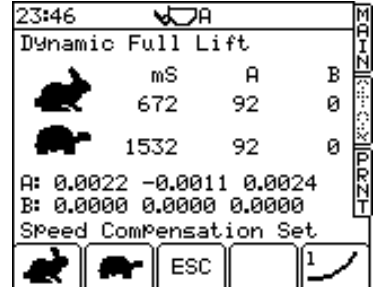

Figure 6a
- With the menu pointer opposite the turtle symbol, lower the bucket then slowly lift through the weighing position again. If you lift too quickly, the display will flash 'Error'. If so, lower the bucket and try again. The instrument will beep once, then display the frequency output of each pressure sensor, and the sample time in milliseconds (fig. 6a).